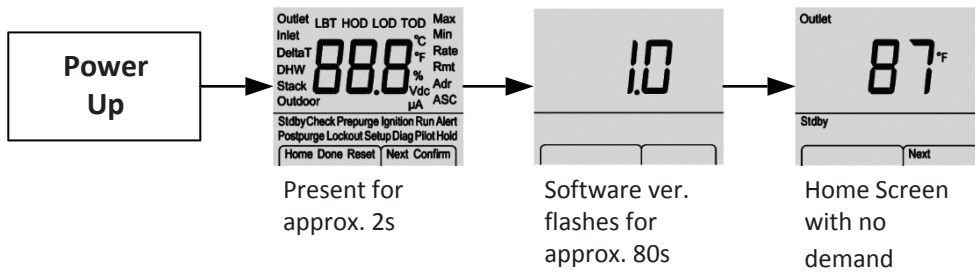
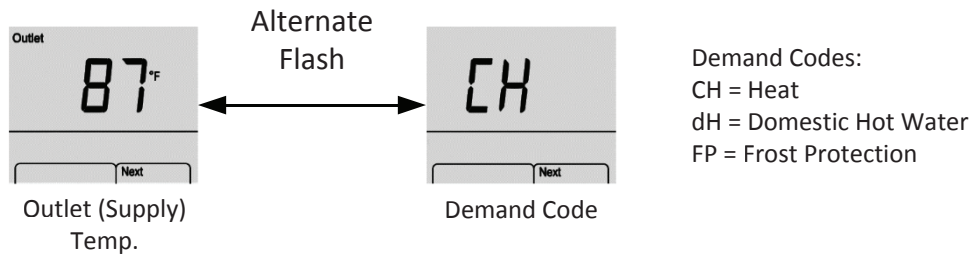

FIGURE 11.2a: HOME SCREEN AT POWER-UP (No Call for Heat)
FIGURE 11.2b: HOME SCREEN ON HEAT DEMAND
- 11) Start the boiler using the lighting instructions on page 61. With the boiler powered up, and with no call for heat, the display will “boot up” as shown in Figure 11.2a for a period of 1-2 minutes. Once a call for heat is present, the demand code will alternately flash with the outlet temperature. (Figure 11.2b)